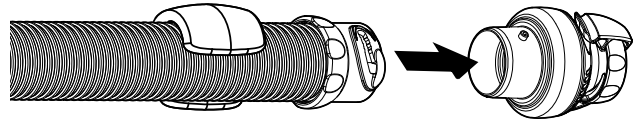

Figure 6
2. Attach the flow regulator valve to the leader hose. Leader hose is the hose section with foam float pre-attached (Figure 6).